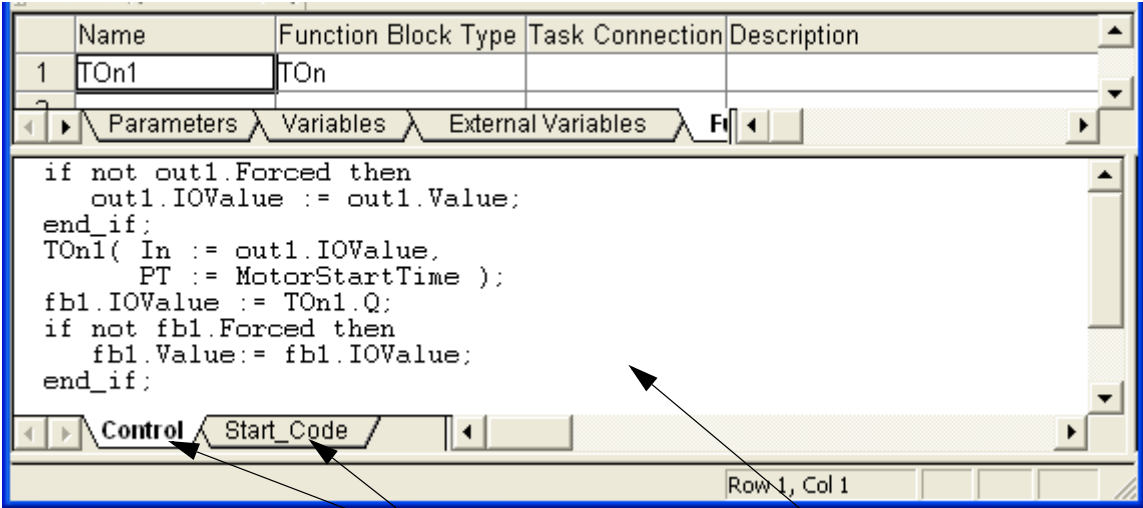

Figure 11. A code pane with two code blocks.
- Programming editor for programming the code using IEC-61131 languages (see Figure 11).
Figure 11 shows a part of the code pane of a control module type editor. This code block uses Structured Text (ST) as the language. This editor contains two code blocks: Control and Start\_Code.